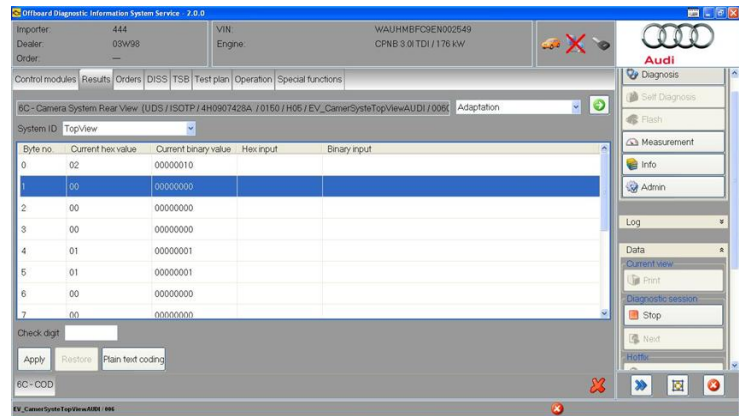

Figure 5. Current value of Byte 1.
2. Read the value of Byte 1 in the *Current hex value* column (Figure 5). Record this number for future use.